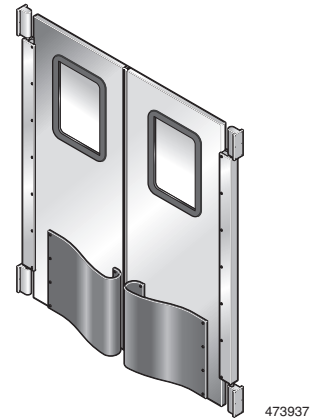

Figure 31. Double-Acting Traffic Door
See Figure 31.
**Flexible Doors** – Attach to the interior side of a wall panel, alongside of the opening. Backing inside the panels is required. If backing is not present, use carriage bolts, or similar fasteners, to bolt through the wall panel. See Figure 31.